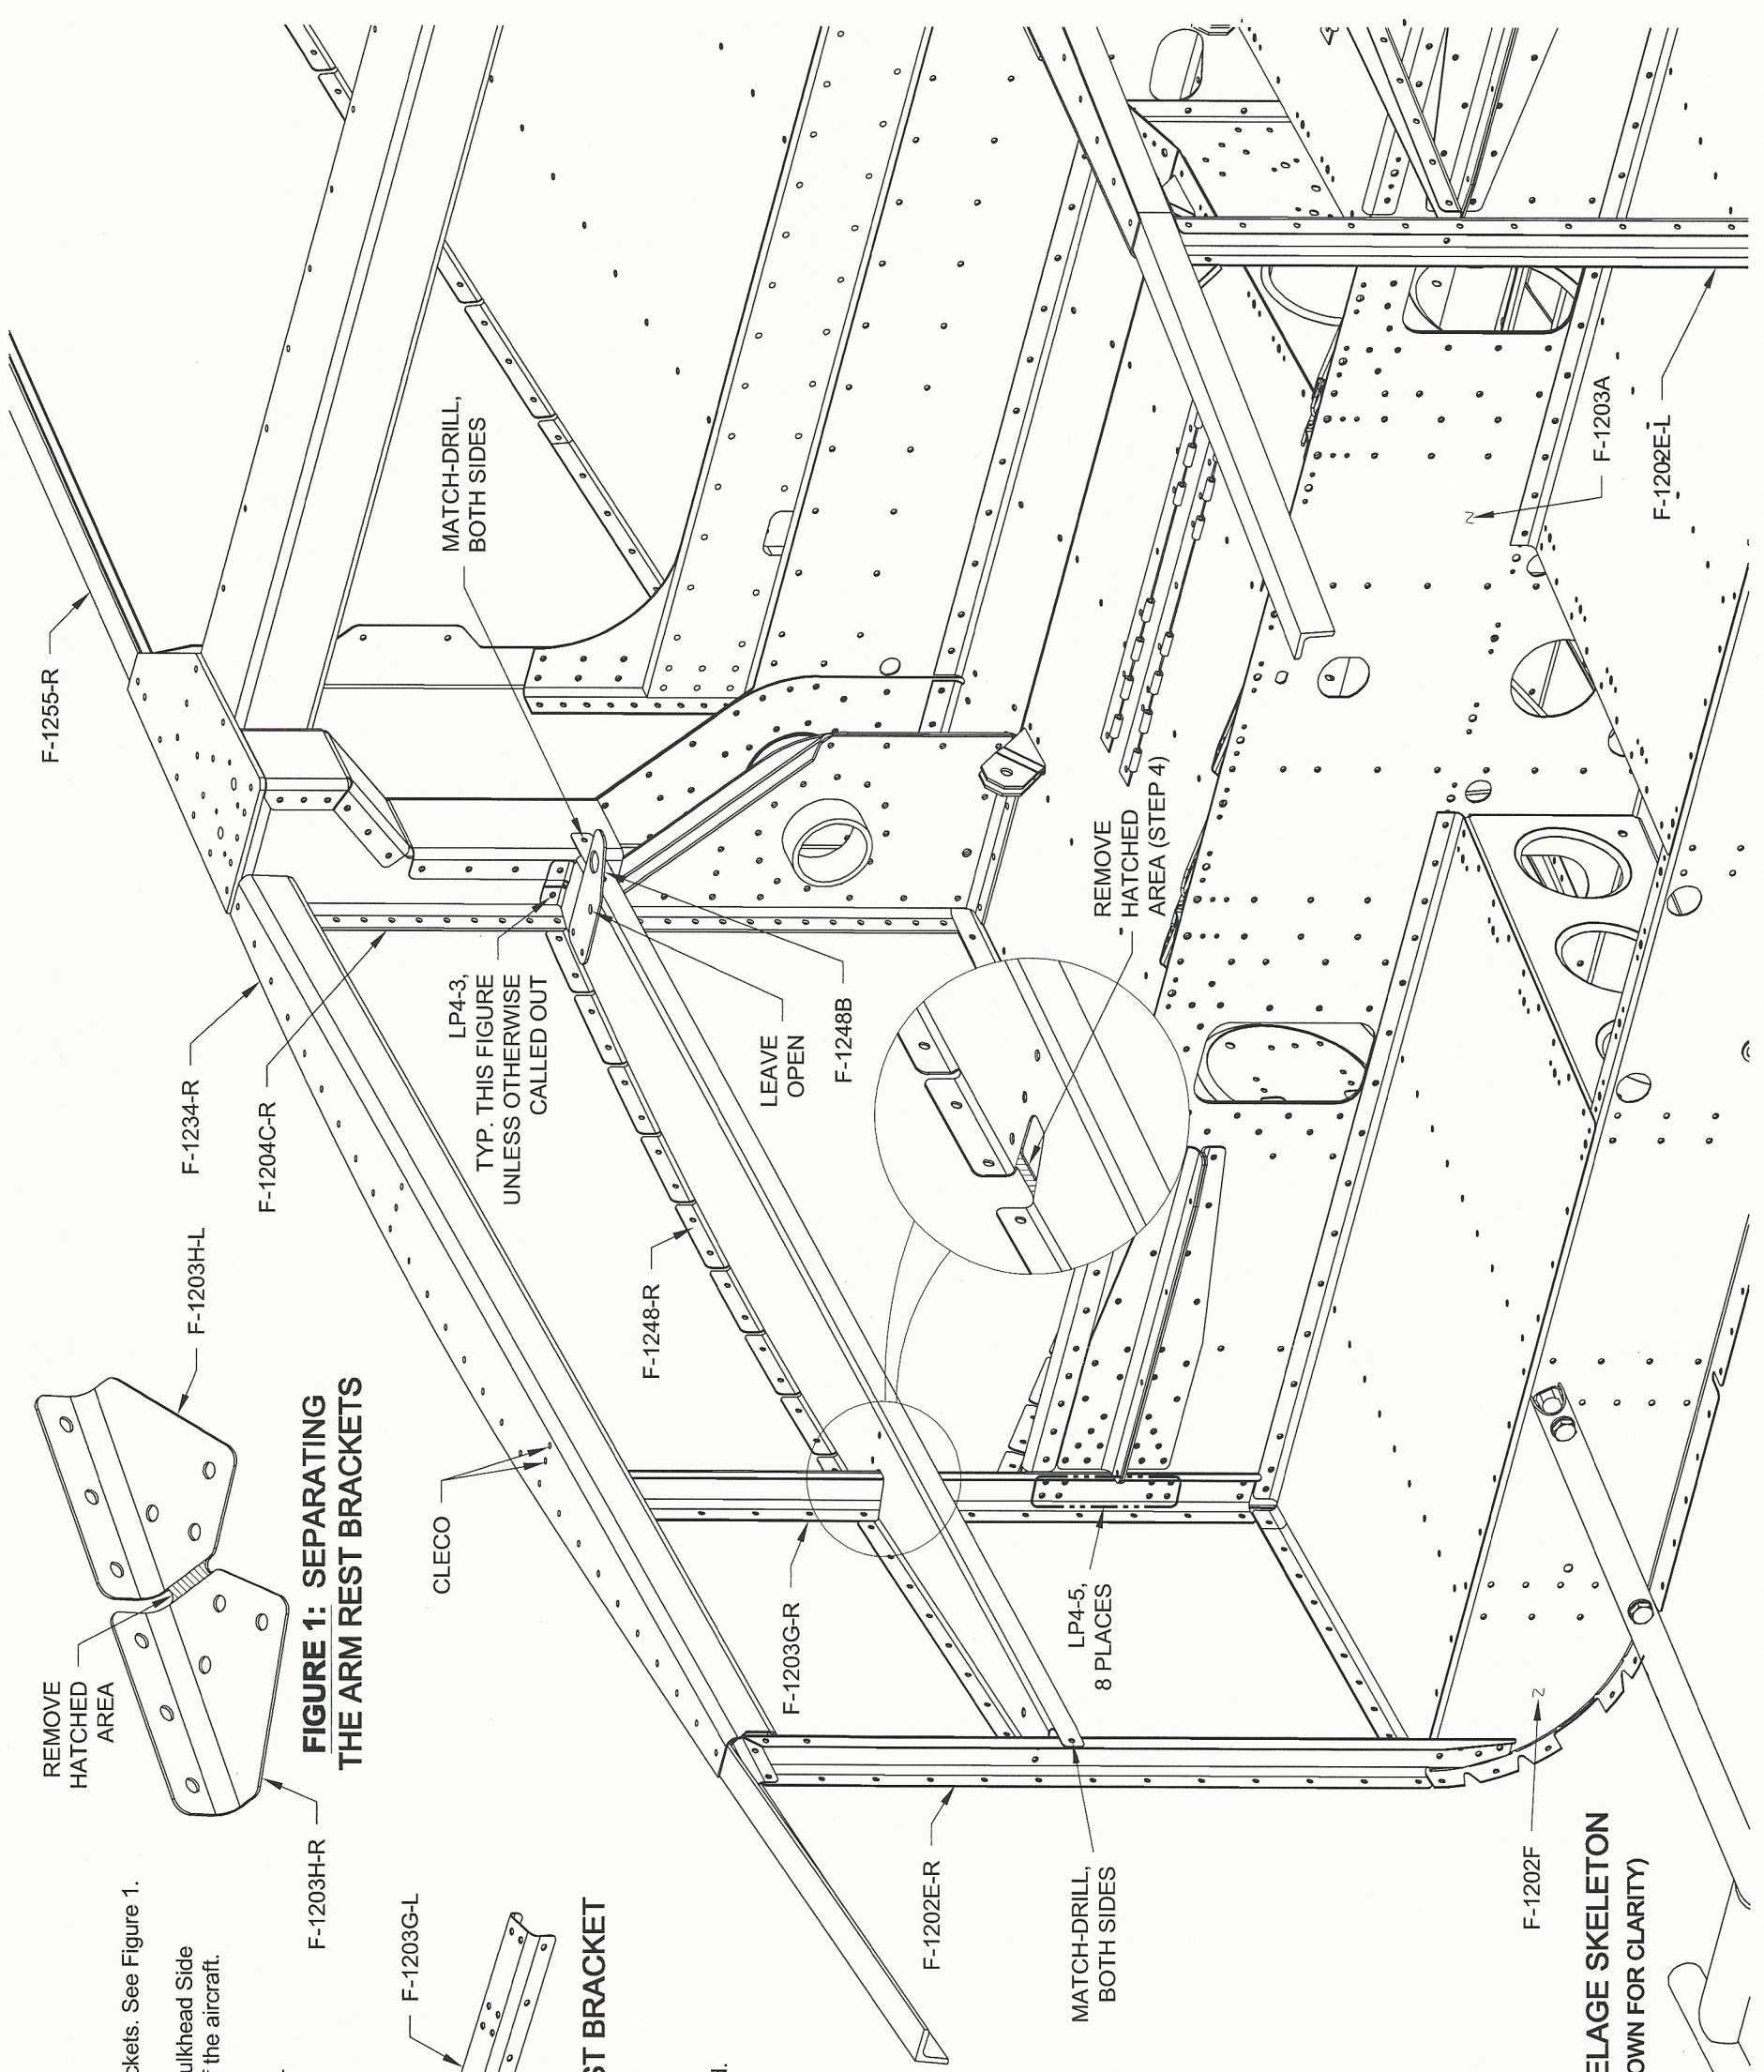

FIGURE 3: MID FUSELAGE SKELETON
Step 6: Rivet a F-1248B Fuselage Pin Latch to both the F-1248-L & -R Arm Rests as shown in Figure 3.
Step 7: Rivet the F-1248-L and -R Arm Rests to the F-1202E-L and -R Bulkhead Side Channels. Rivet the arm rests to the F-1204C-L and -R Fwd Bulkhead Sides. Rivet the arm rests to the F-1203H-L and -R Arm Rest Brackets. See Figure 3.
Step 8: Insert the F-1234-L and -R Canopy Decks and F-1255-L and -R Longerons (should still be clecoed together as an assembly) into the fuselage skeleton. Cleco the canopy decks to the upper tab in the F-1203G-L and -R Bulkhead Side Channels. See Figure 3.